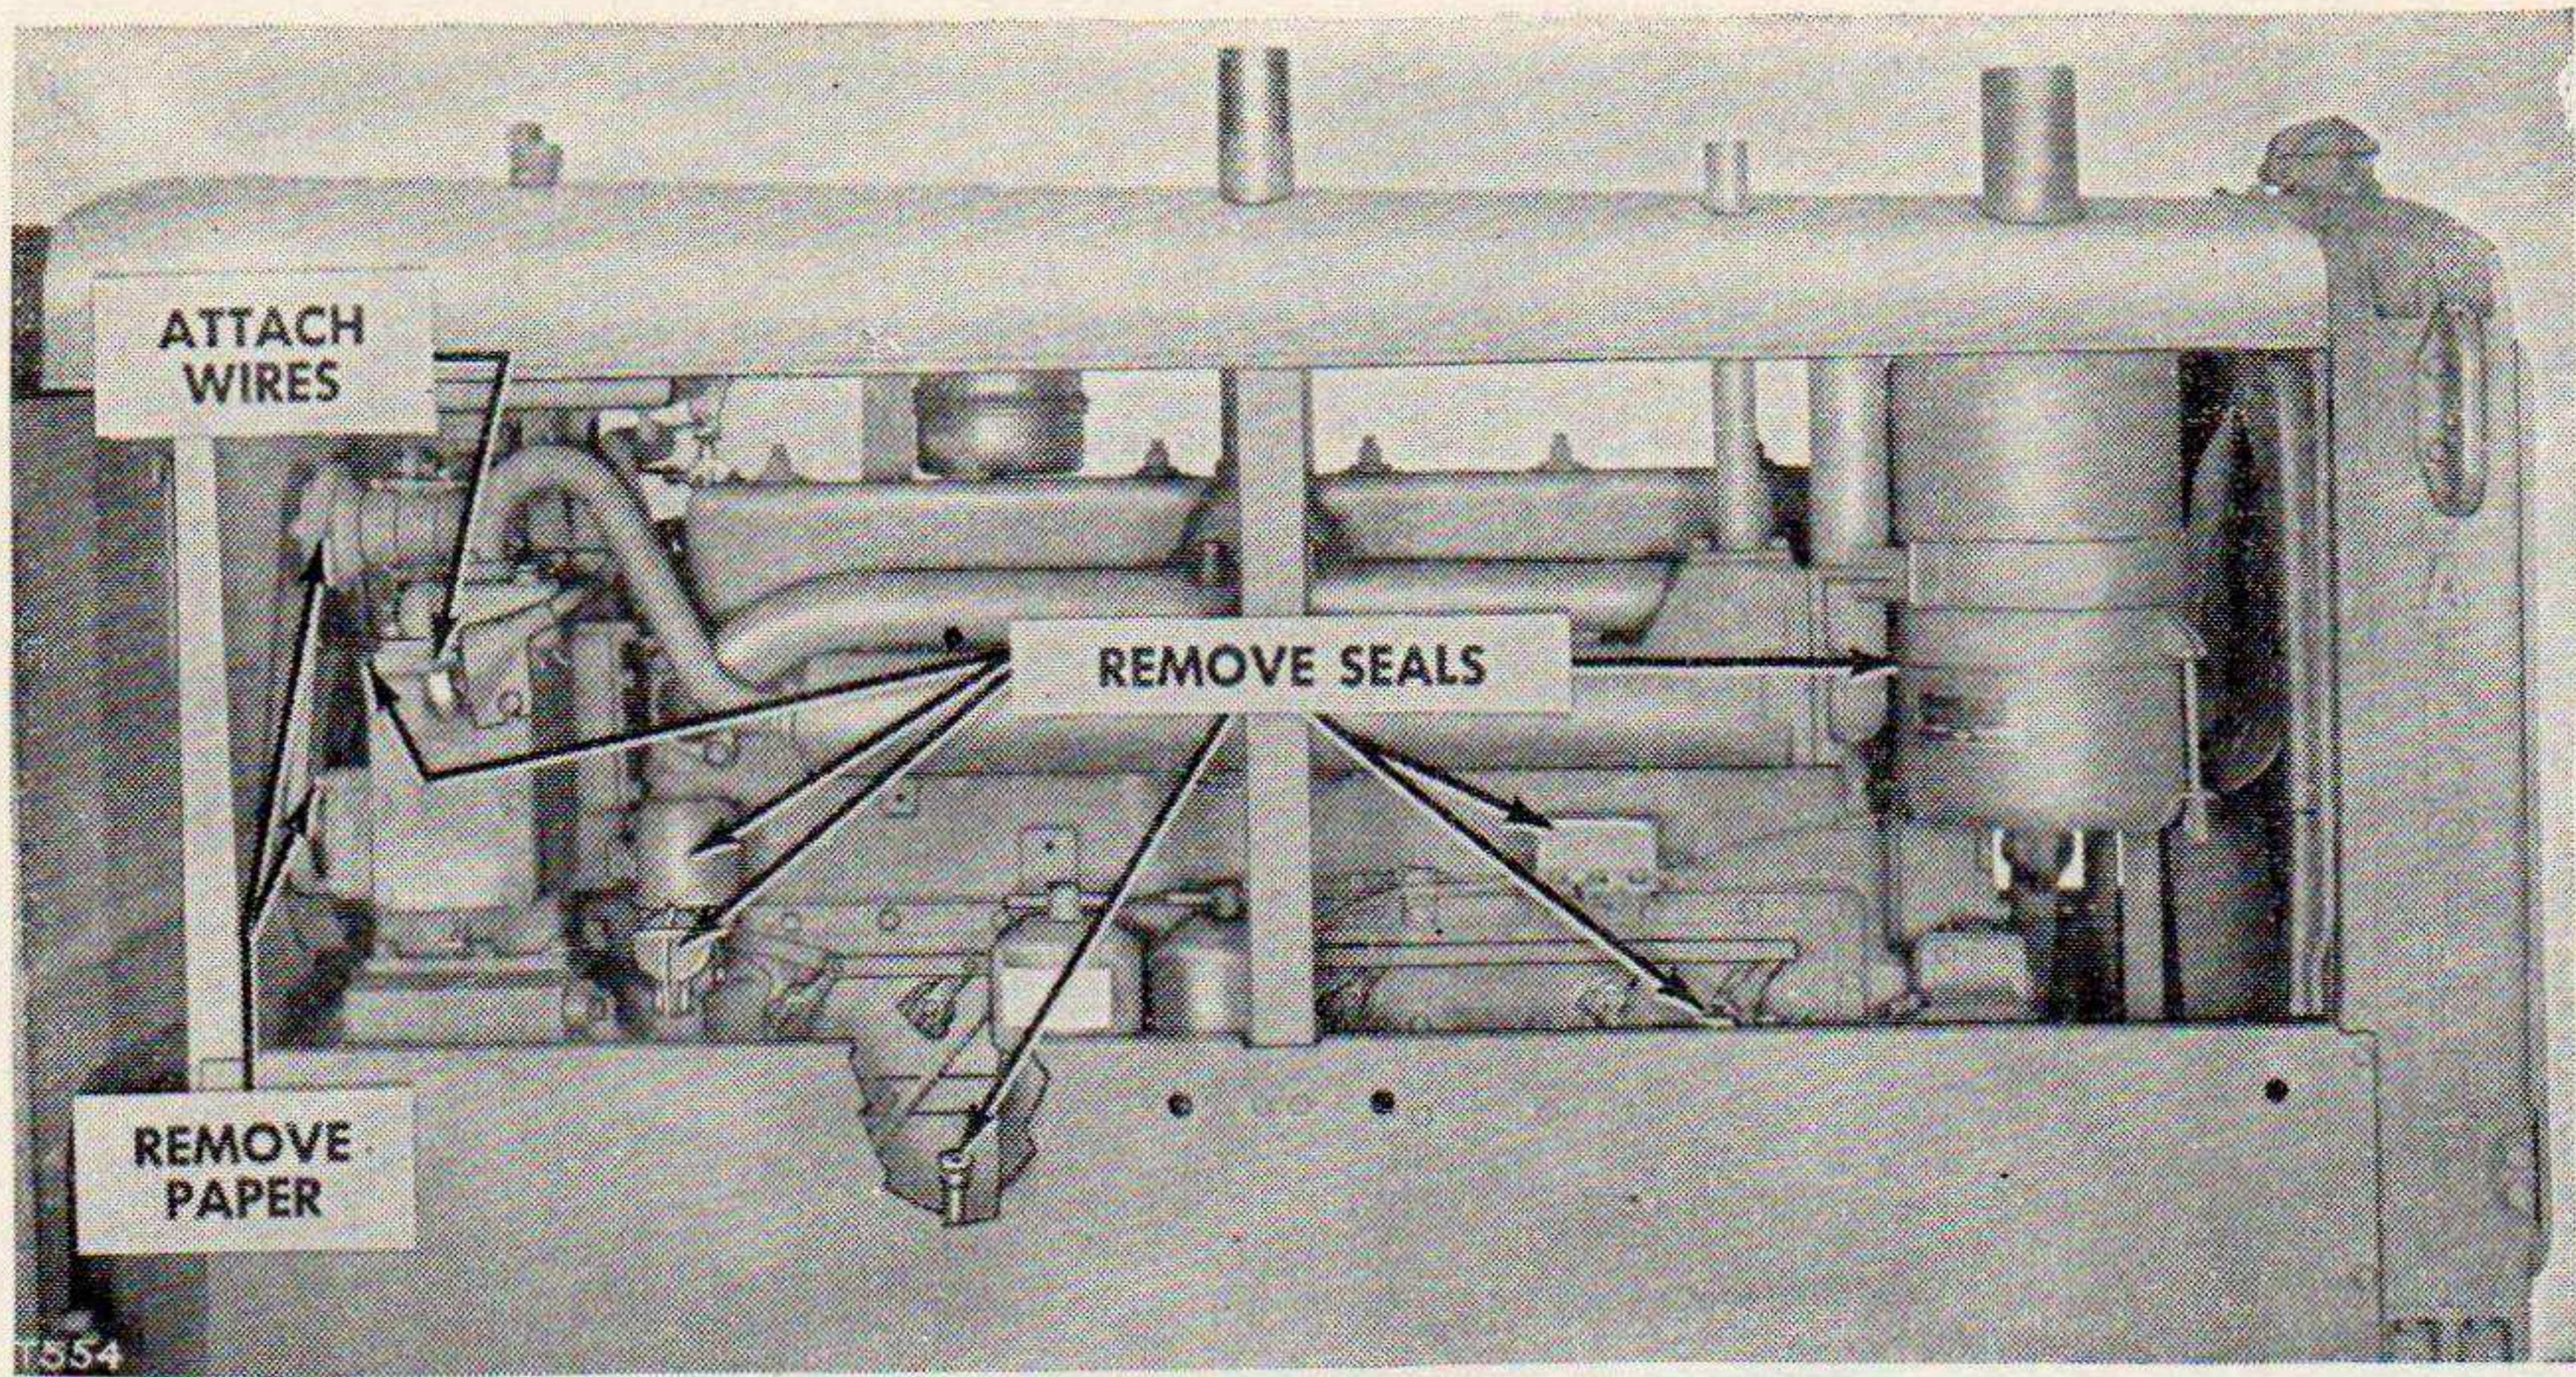
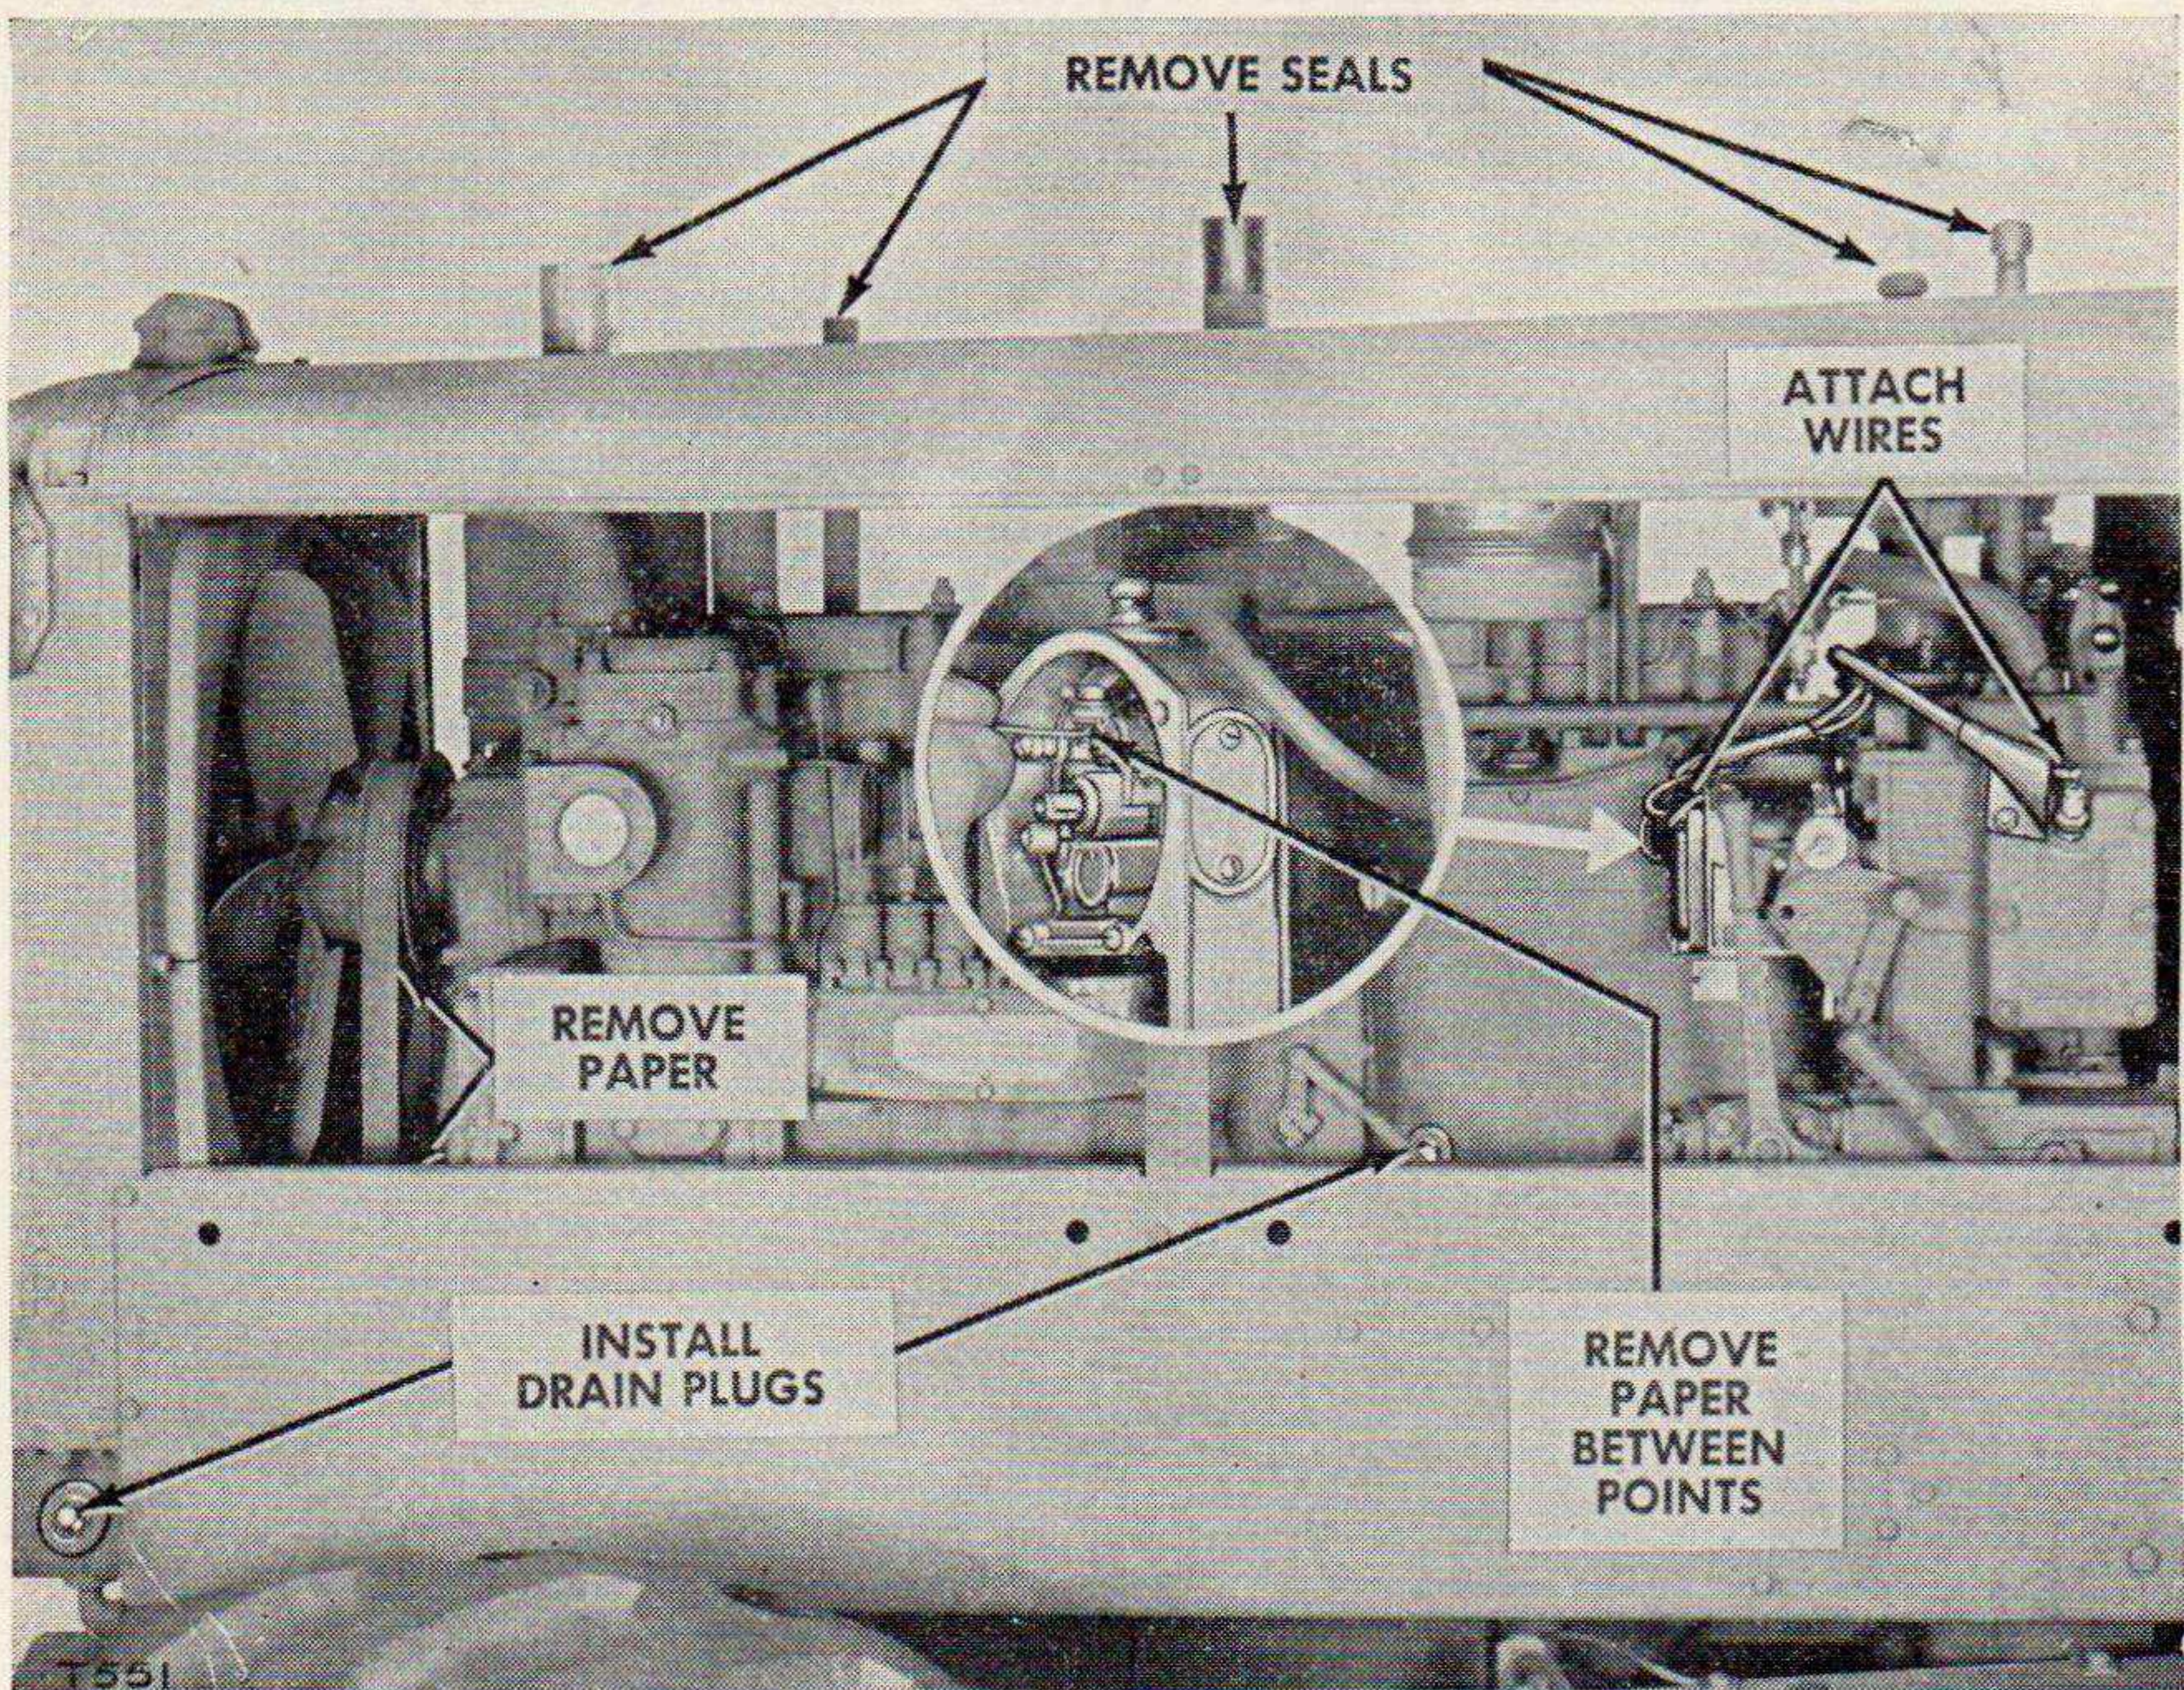

Figure 10. Preparation before operation.
Figure 11. Preparation before operation.
- (1) Remove the seals from the accessories and openings pointed out in figures 10 and 11.
- (2) Remove the paper from between the fan belt and fan pulleys and from between the starting engine accessory drive belt and pulleys.
- (3) Remove the paper from between the starting engine magneto breaker points. (See fig. 11.)
- (1) The precleaner is packed with the clamp in the tool box. Install the precleaner on top of the air cleaner inlet pipe.
- (2) The Diesel engine block drain plug and the radiator drain valve are in a sack attached to the governor control rod on the right side of the Diesel engine. Screw the plug into the block and the radiator drain valve into the radiator. (See fig. 11.) Add water or antifreeze. Antifreeze proportions are listed in paragraph 25.
- (3) The muffler is fastened to the operator's platform. The clamp is located in the tool box. Attach the muffler to the Diesel engine exhaust pipe.